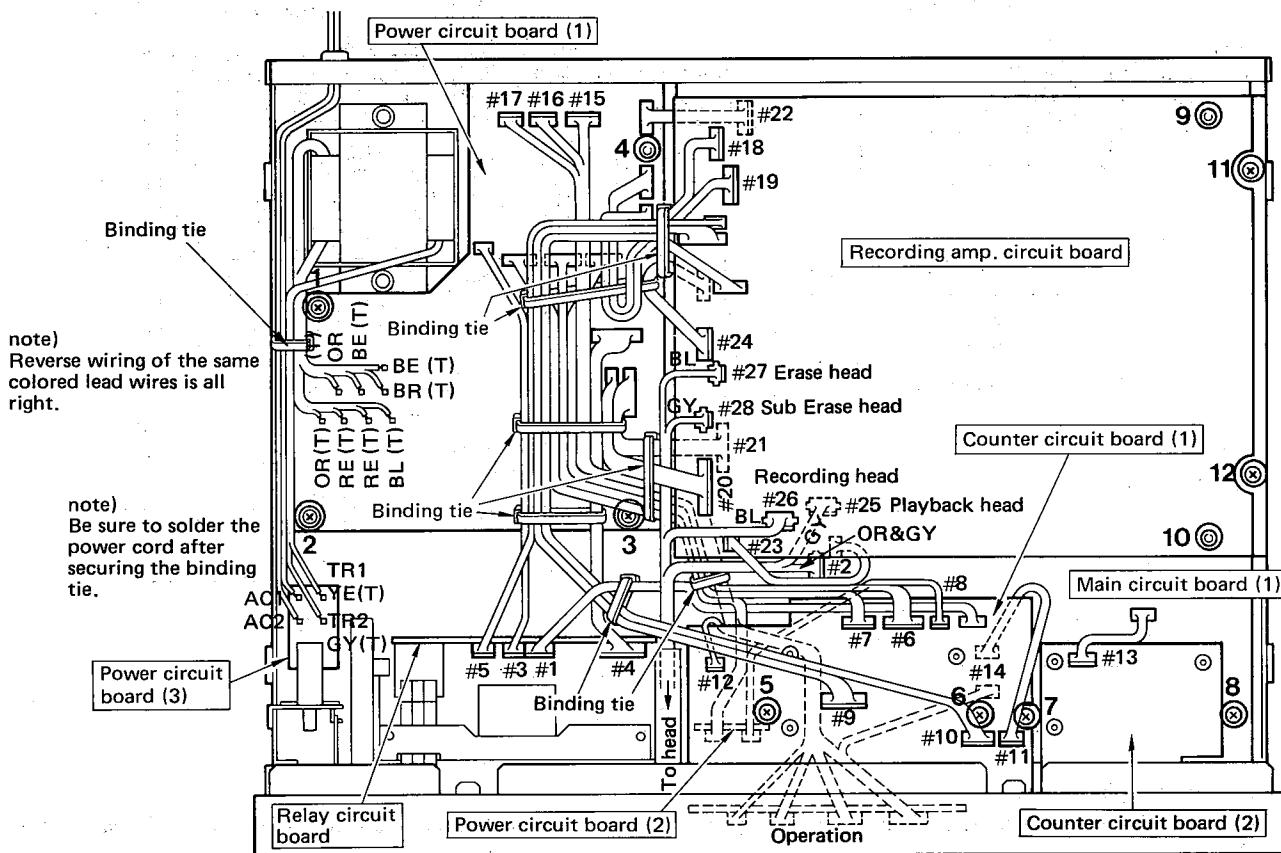
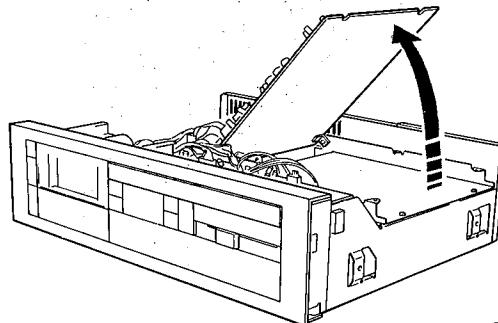

Fig. 15
Fig. 16
1. Counter circuit board (1) removal
Remove screws ⑤ and ⑥ in fig. 15 and then pull out the counter circuit board (1) by sliding it backward.
2. Counter circuit board (2) removal
Remove plastic rivets ⑨ and ⑩ in fig. 15 and then rotate the recording amp. circuit board upward. (Refer to fig. 16)
Remove screws ⑪ and ⑫ (don't remove plastic rivets ⑨ and ⑩) in fig. 15 and then rotate the recording amp. unit upward.